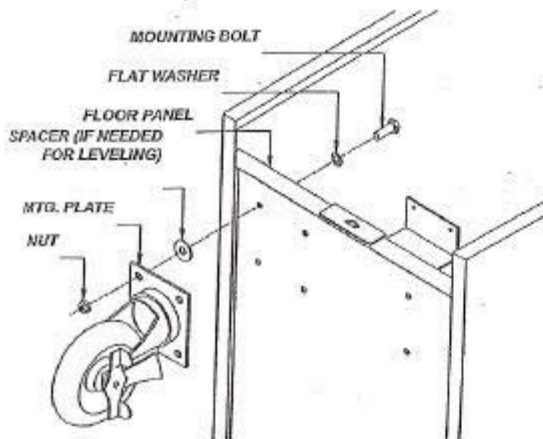

Figure 4. Typical Caster Installation
4. Position the fryer on its side, exposing the bottom of the fryer (Fig.4).